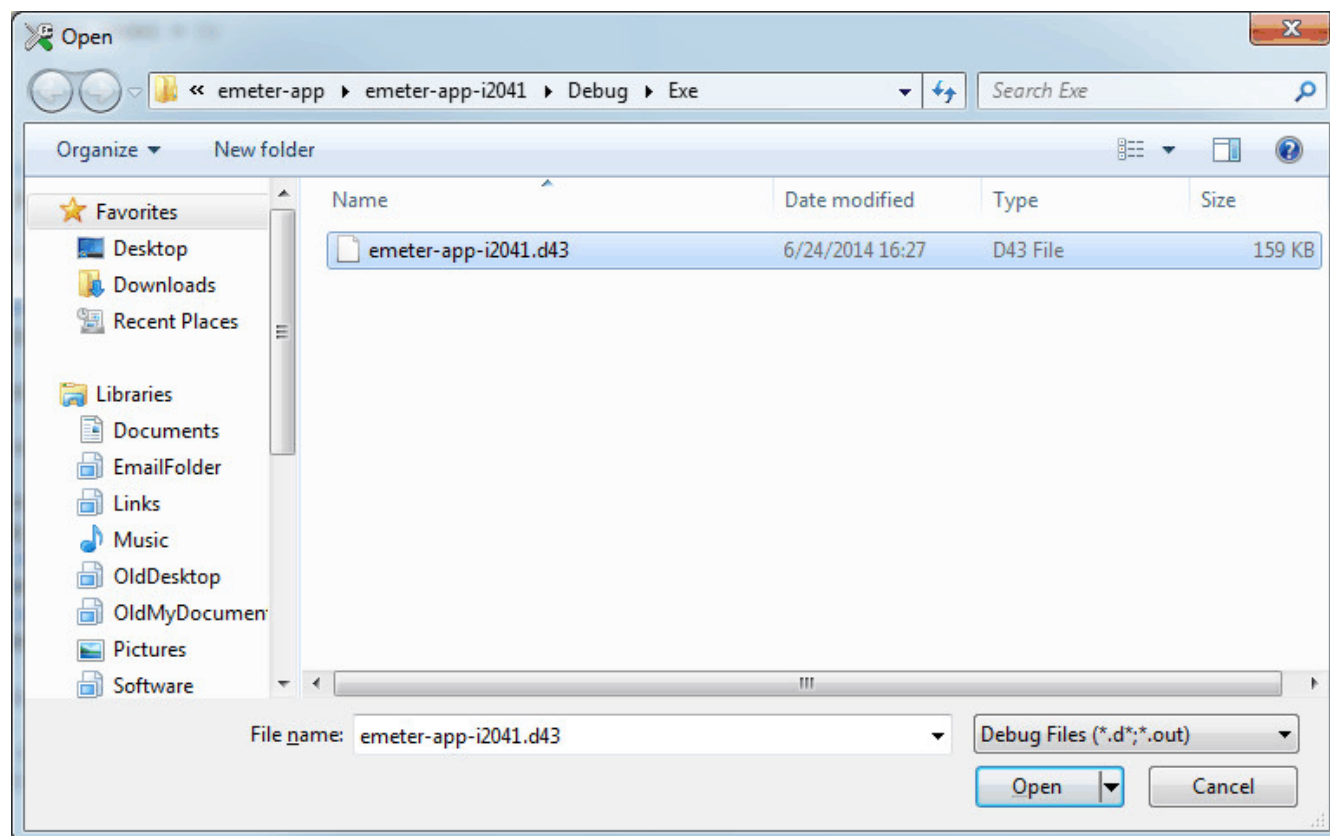

Figure A-12. Select File
- When prompted to select the file, select the file named `emeter-app-i2041.d43` from the folder `[Submeter i2040 4k_3 SOCK_AUTO_OSR_IAR5.5]\emeter-app\emeter-app-i2041\Debug\Exe` (see Figure A-12).